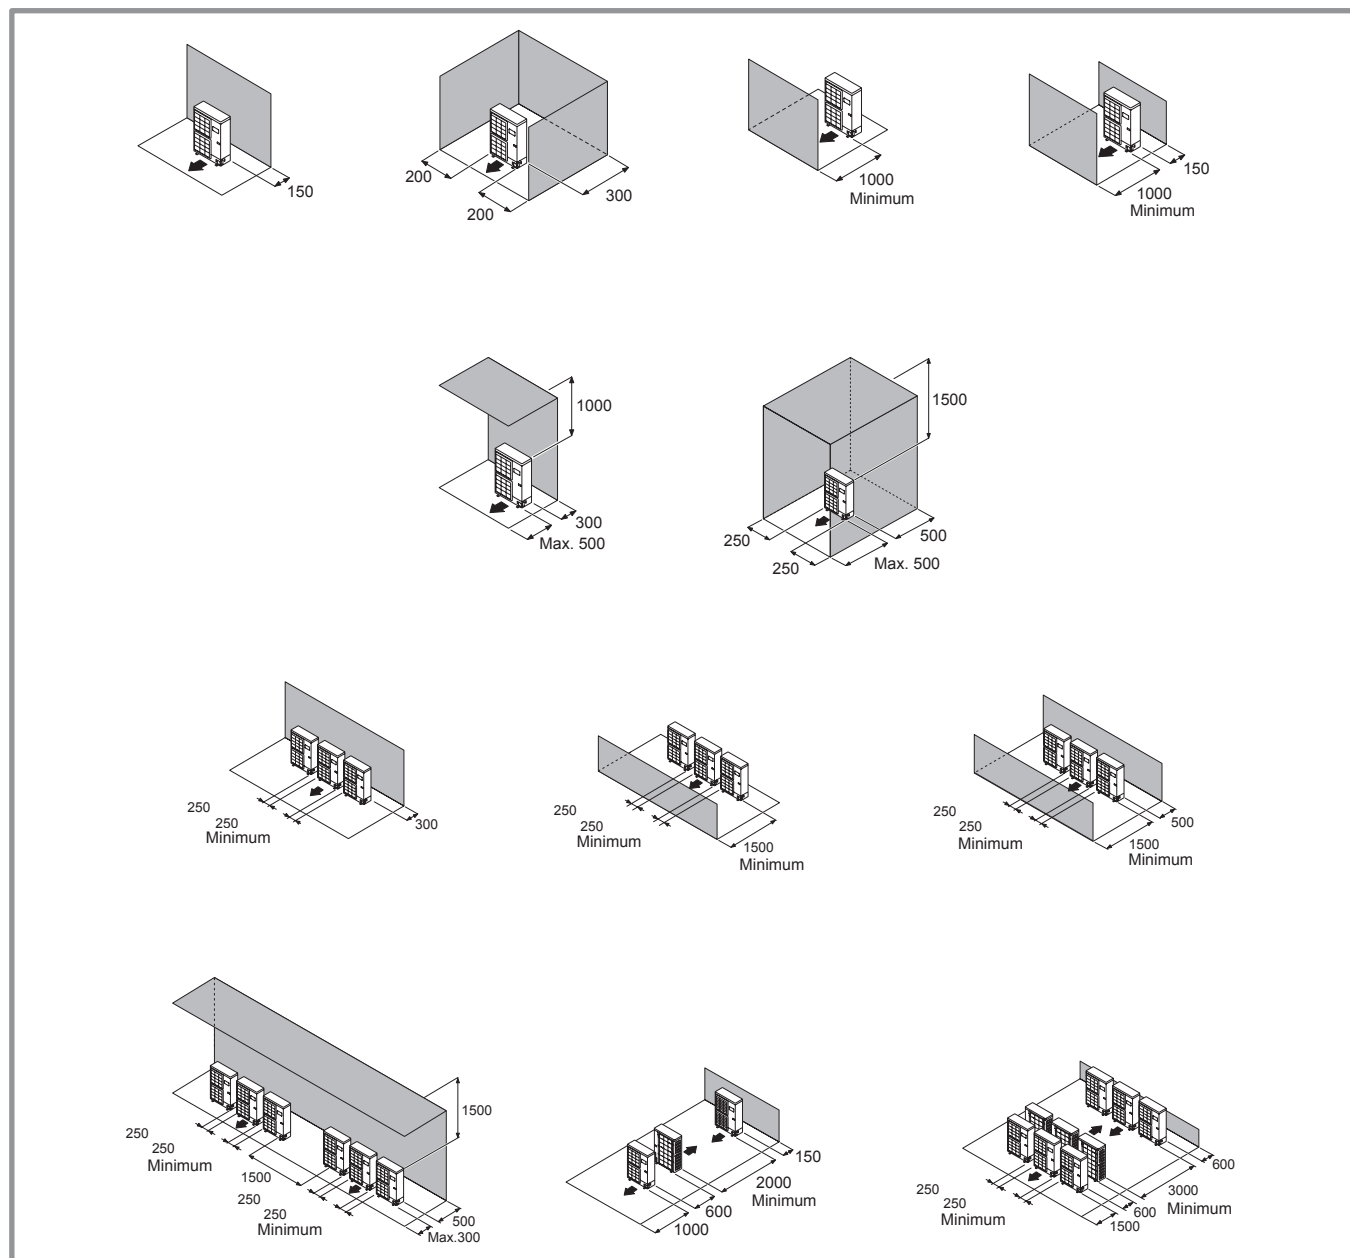

figure 12 - Minimum installation clearances around Outdoor unit (all models)
The outdoor unit must be installed outdoor (outdoors). If a shelter is required, it must have broad openings on the 4 walls and observe the installation clearances (figure 12).
- The unit must be easily accessible for future installation and maintenance work (figure 12).
- Nothing should obstruct the air circulation through the evaporator and from the fan (figure 12).